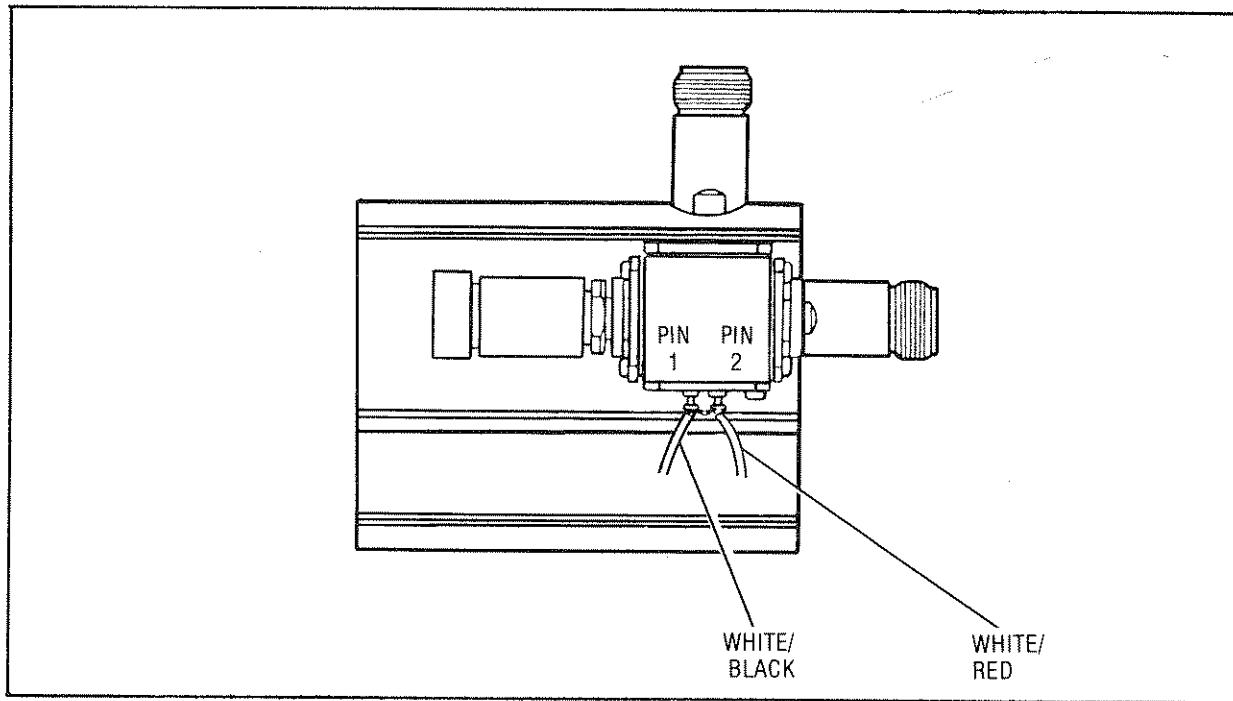

Figure 8-6. Al Bridge Microcircuit Assembly
The bridge microcircuit assembly A1, illustrated in Figure 8-6, includes input port connector J1 and test port connector J2 and reference termination AT1. This assembly may be replaced on an exchange basis at considerable cost savings. Refer to Section VI of this manual for the part numbers for new and exchange assemblies. Since the instrument serial number label must be removed for access to the bridge assembly, each replacement bridge assembly is supplied with a replacement blank serial number label. The instrument serial number should be typed on this label, which is then applied to the instrument following bridge assembly replacement.
5. Solder the preamplifier wires back into place. Solder the white/red wire to pin 2 on the bridge housing (see Figure 8-6). Solder the white/black wires to pin 1 and the bottom of the solder lug. Be sure that pin 1 and the solder lug are wired together.